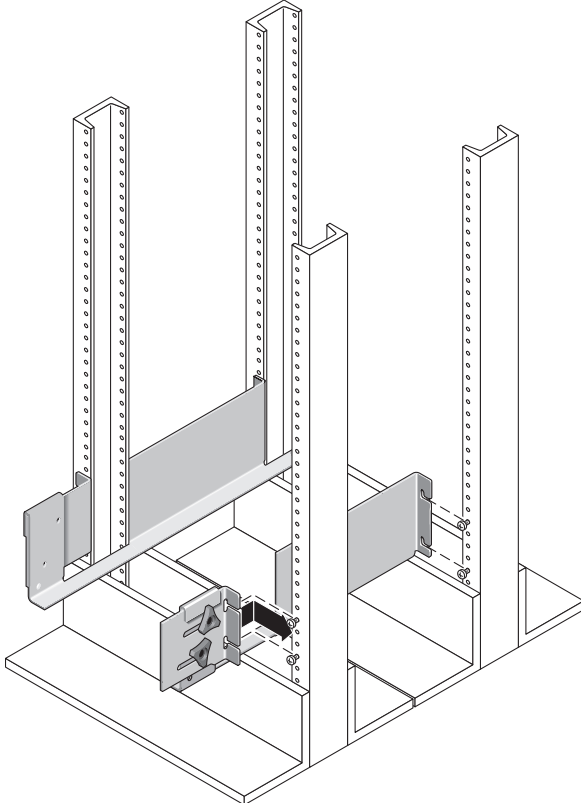

FIGURE 12 Installing the Mounting Rail onto the Front and Back Posts of the Telco 4-Post Rack
2. Loosen, but do not remove, the two hand knobs on the adjustable bracket at the rear of the left rail. Adjust the rear bracket of the left mounting rail to fit against the rear post, and then tighten the two knobs (FIGURE 12). Repeat for the right rail.
3. Align the open slot of the left mounting rail over the front and back screws of the left post, and press the rail down until it is seated over the screws (FIGURE 12). Repeat for the right rail.